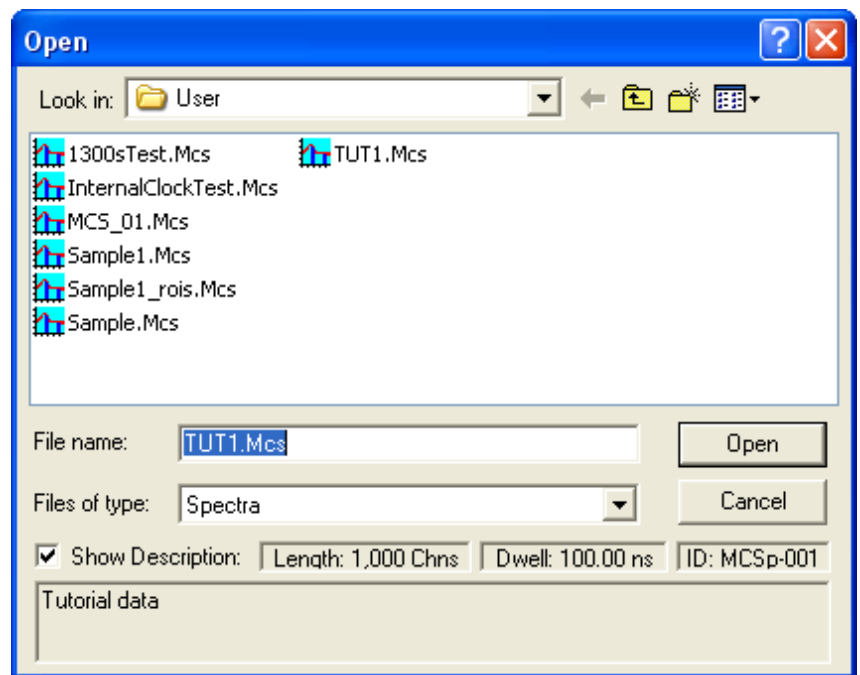

Fig. 9. Recall (retrieve) File TUT1.MCS.
- To recall your spectrum file into the buffer, select **Recall Data...** from the **File** menu. This will open the dialog shown in Fig. 9.